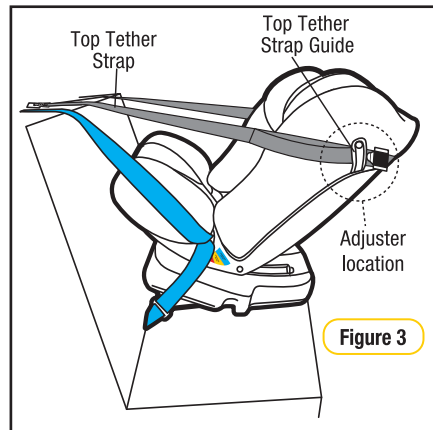

Figure 3
Step 3: Locate the adjuster at the side of the restraint and secure using the Top Tether Strap Guide (refer Figure 3).